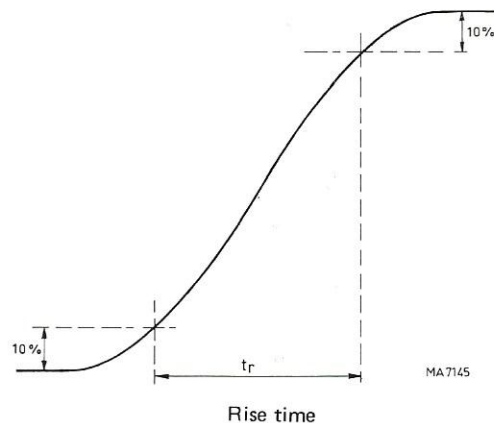

Fig. XI-6. Definition Rise-Time
- Check the rise-time, see Fig. XI-6 in position 2–, 5– and 10 mV/div. of the  $Y_A$  AMPL switch (reduce the input voltage in these positions to obtain a four-division vertical deflection).
- Check the rise-time see fig. XI-6 in position 2–, 5–, and 10 mV/div. of the YB AMPL switch (reduce the input voltage in these positions to obtain a four division vertical deflection).